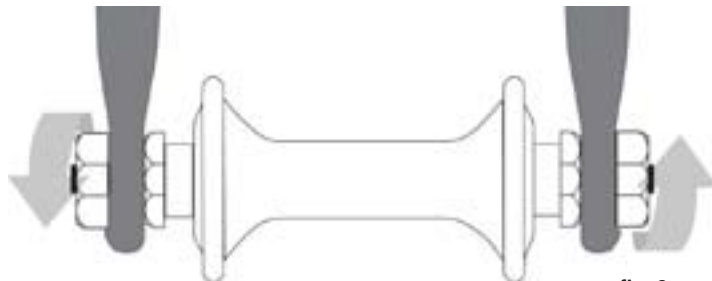

fig. 9
- Hex nuts or hex key bolts which are threaded on to or into the hub axle (bolt-on wheel, fig. 9)